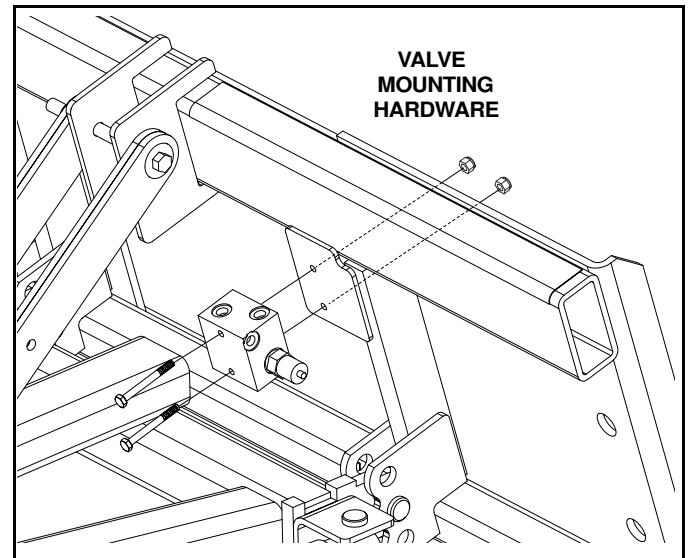

Figure 2-9
3. 32CSKD Only: Install cross over relief block to face of Universal Adapter Plate. (See Figure 2-9)